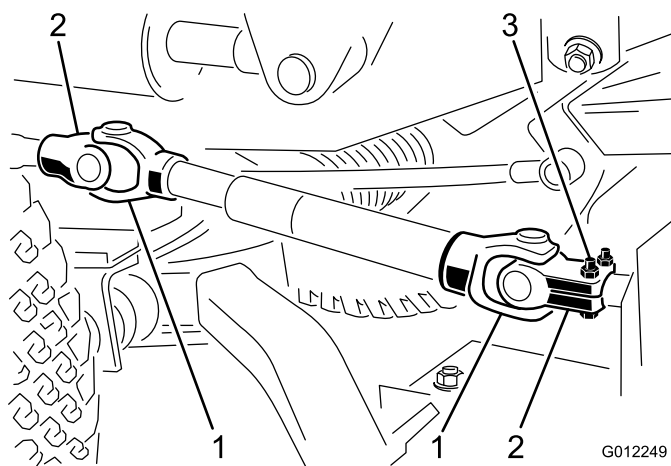

Figure 8
1. Line up the holes in the yoke and input shaft of the gear box. Slide the yoke onto the shaft and secure them together with a roll pin and 2 capscrews (5/16 x 1-3/4 inches) and locknuts (5/16 inch) (Figure 8).